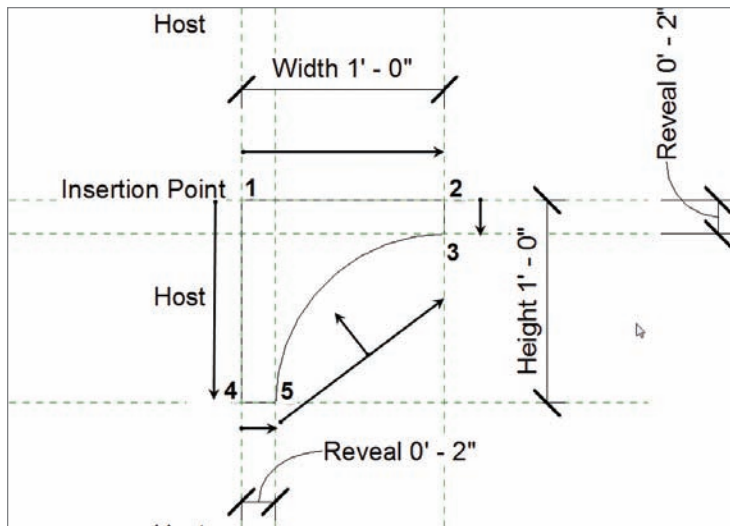

FIGURE 17.11 Drawing the boundary of the profile
2. Draw a line from the intersection labeled “1” in Figure 17.11 to the intersection labeled “2” in Figure 17.11.
7. On the Draw panel, click the Start-End-Radius Arc button and draw an arc from point 5 to point 3. Once the two points are snapped in place, move your cursor to the left until the radius snaps into place. Your family should look like Figure 17.11.